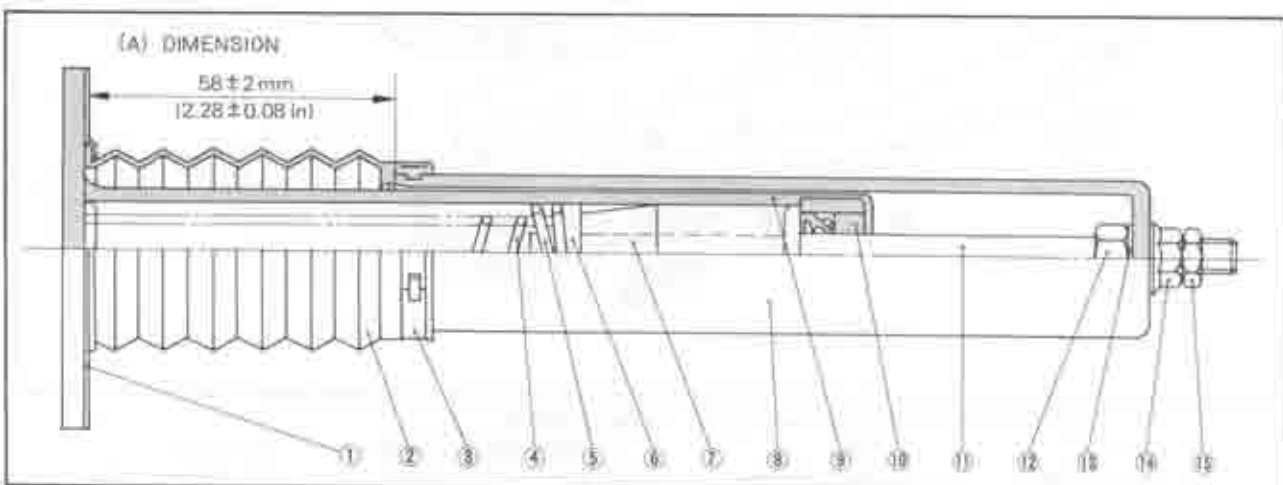

Fig. 14-14. Shock absorber
To check the shock absorber, measure the dimension (A) shown in Fig. 14-14.